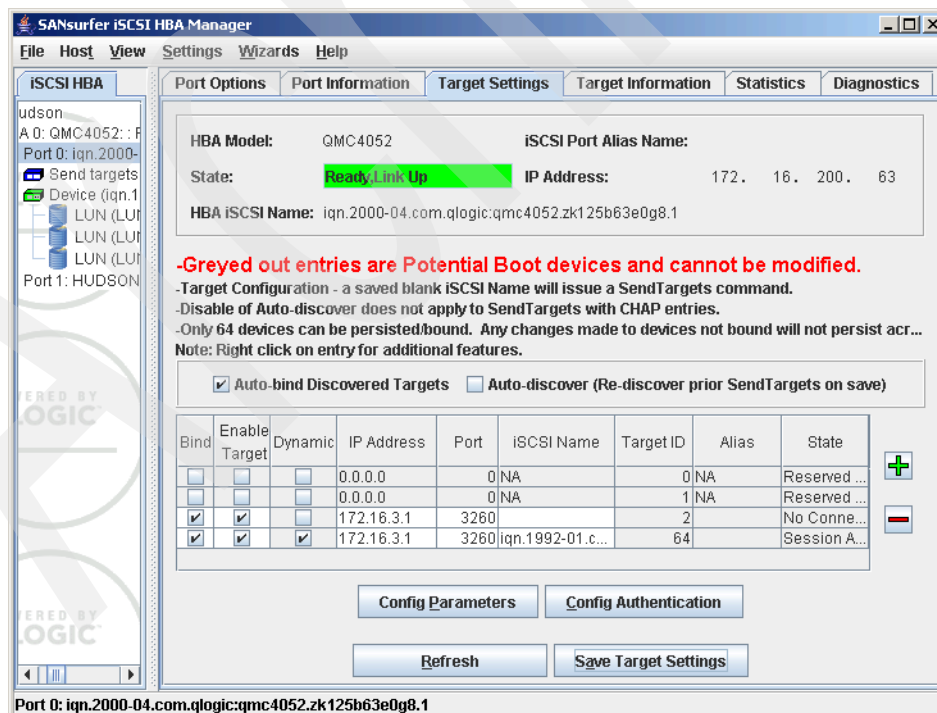

Figure 21-51 SANsurfer - Persistent and dynamic target
7. After the configuration has refreshed, the specified target is listed under the host port in the left hand pane. Figure 21-51 shows this as the blue entry in the iSCSI HBA tab. This blue target is a special entry called Sent Target Hosts that is used to get available LUNs from the target. There will never be an active session for this kind of target and it is only used for discovery purposes.